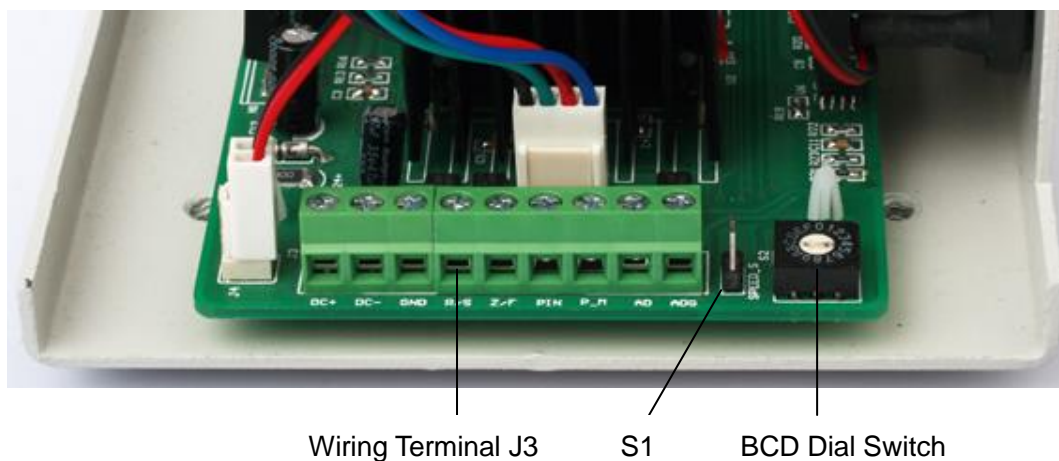

Figure2
The power supply requirement is DC 24V and power $\geq 80W$. For the power supply terminal position, please refer to Figure 2 and Table 2 for T600-S11/S21/S31/S41, Figure 3 and Table 4 for T600-S51.
Figure 2 shows BCD dial switch, S1 and wiring terminal on control circuit board. Refer to Table 2 for wiring terminal definition.
- 2) Connect the power supply and necessary control signal wire according to Figure 2 and Table 2.